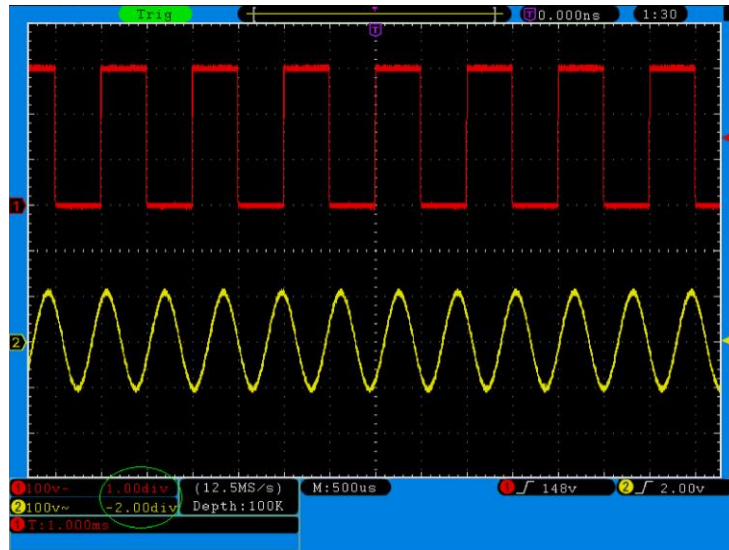

Fig. 24 Information about Vertical Position
3. When the vertical position of the channel waveform is adjusted, the screen shows the information concerning the vertical position at the lower left corner (see **Fig. 24**).